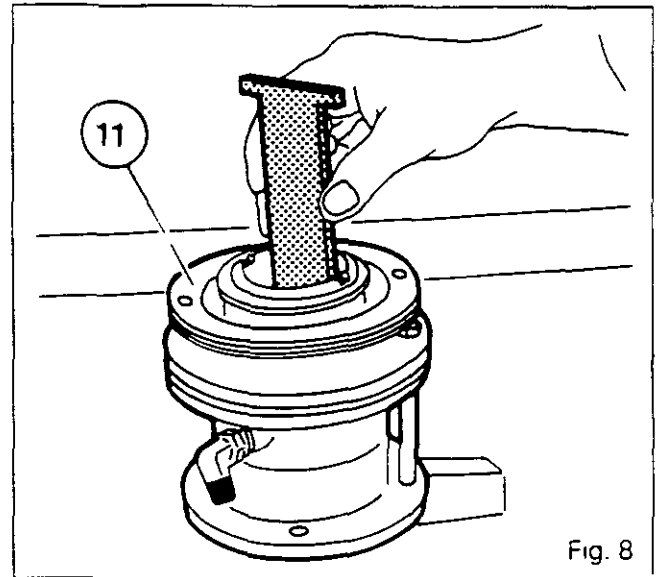

Fig. 8
3. Remove the rubber boot (12).
- the elbow union (27),
- the straight union (28),
- the guide pin (24) on the boot carrier (11),
- the boot carrier (11) using the locally made-up tools shown in Figs.8 and 9 (see section J)
5. Remove the guide pin (24).
6. Withdraw the piston (15) from the cylinder (19).